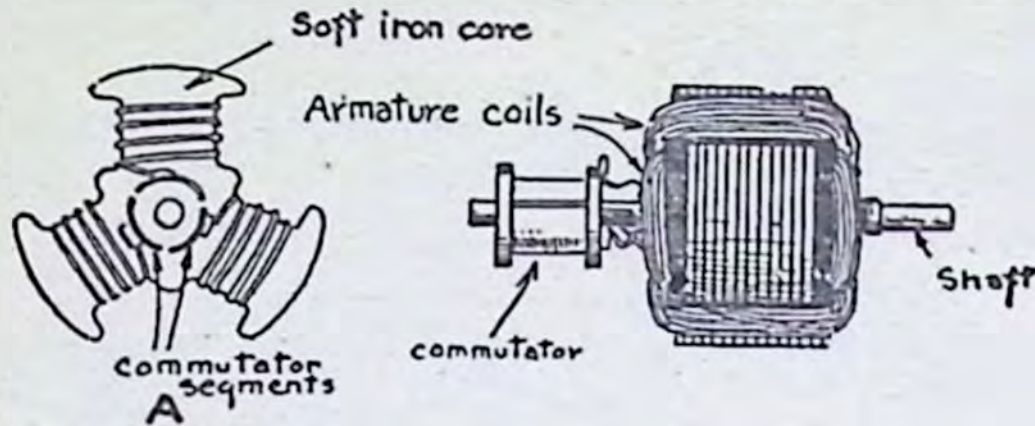

Fig. 10
(12) HOW THE ARMATURE OF A MOTOR IS MADE: The part of a motor that rotates is called the armature. It is formed by four distinct parts, and these are (1) the shaft; (2) the core, which is built up of 12 plates, or laminations, of soft iron; (3) the windings, or coils of insulated wire wound on the pole pieces of the core; and (4) the commutator, which is formed of three brass segments insulated from each other by means of hard fiber checks. The coils are connected to the segments of the commutator, as shown at A in Fig. 10, and the armature complete is shown at B.